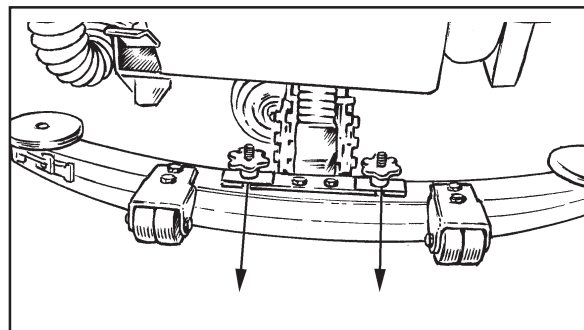

Figure 37
1. Remove the squeegee assembly by loosening the two knobs that attach the squeegee to the machine. Pull the squeegee assembly off (See figure 37).